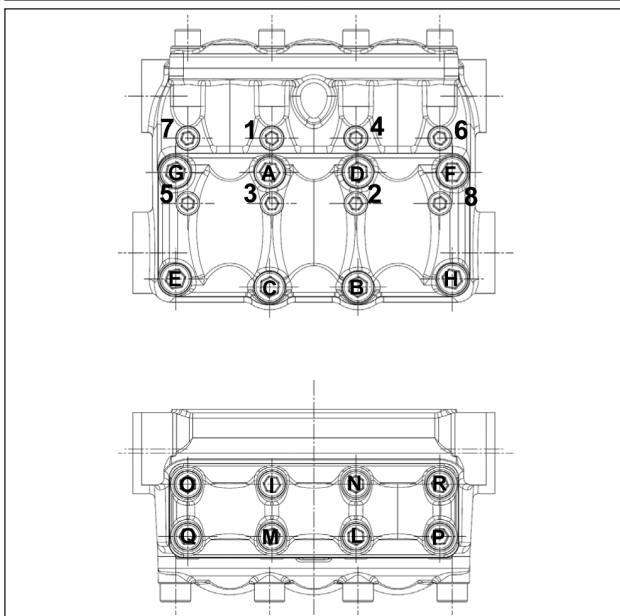

Fig. 31
*** The valve cover fixing screws exploded view pos. 45 and exploded view pos. 58 must be tightened with a torque wrench respecting the order shown in the diagram in Fig. 31.